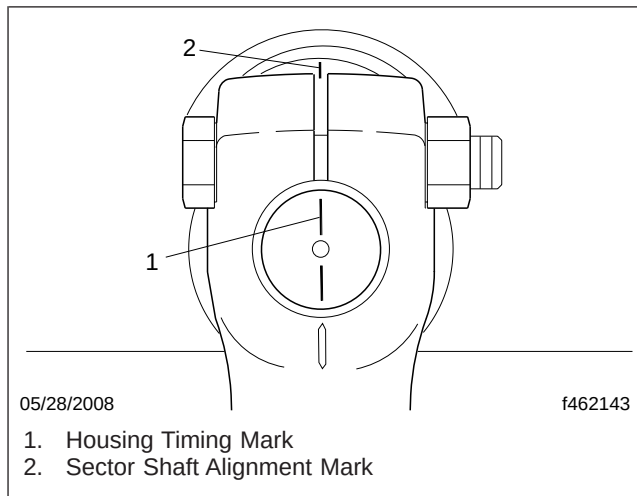

Fig. 1, Timing Mark Placement
2. With the engine on, turn the steering wheel until the timing mark on the sector shaft lines up with the timing mark on the housing. The sector shaft is now at its center of travel. See Fig. 1. Shut down the engine.